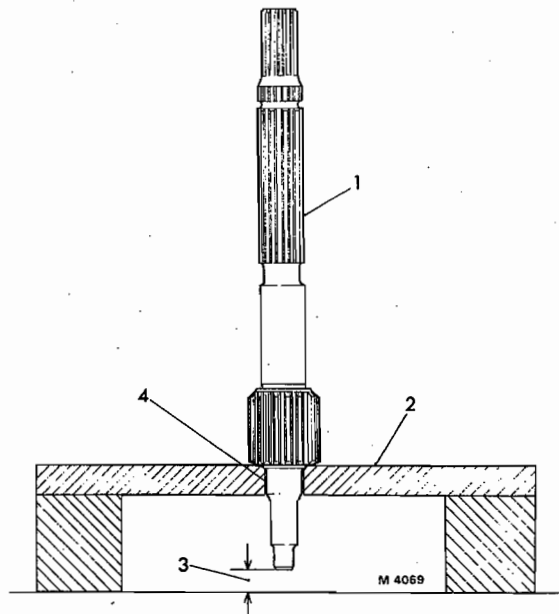

FIG. 17 THE INPUT SHAFT IN A SUITABLE STAND
1. Remove the reverse speed annulus (30) and intermediate bearing (49).
2. Remove the bush (50).
3. Remove the sub-assembly of the reverse speed gear train (34), reverse speed sun wheel (36), bushes (51 and 53), and bush (54).
4. Remove the 1st speed annulus (28) and bush (55).
5. Remove the sub-assembly of the 1st speed gear train (29) and the bush (57).
6. Remove the sub-assembly of the 2nd speed gear train (25) which comprises the output shaft (44) and the 2nd speed planets.
7. Remove the adjusting washer (59).
8. Reverse the input shaft assembly on to a suitable stand having a hole drilled through which the spigot can pass, Fig. 17. The stand should be high enough to allow clearance between the shaft and the floor.
9. Remove the ring nut (100).
10. Remove the clutch housing (1) complete with top speed piston assembly, collar (4), bearing housing (81) and bearing (80).
11. Slide off the spacer (6).
12. Release the spring clip (79) and remove the sub-assembly of the clutch sliding panel (11) and the trunnion ring (10).
13. Examine the pivot pin face (8) for wear. Any wear will allow the trunnion ring to move away from the multi-plate clutches and cause the top speed piston to travel further before a successful gear change is made. A point will be reached therefore, when the top speed clutch will cease to operate.
15. Remove the inner and outer clutch plates (14), (16) the clutch inner member and split-ring.
16. Remove the sub-assembly of the 4th speed sun wheel (22), the 4th speed brake drum (17) and the bush (61).
17. Remove the sub-assembly of the 4th speed gear train (21) 3rd speed annulus (20) and 4th speed planets, together with the bushes (18).
18. Remove sub-assembly of 3rd speed gear train (23) which comprises the 4th speed annulus (19) 3rd speed planets and 2nd speed annulus (24).
1. Place the input shaft (95) in a suitable stand, Fig. 17 and fit the bush (18).
2. Fit sub-assembly of 3rd speed gear train which comprises the 4th speed annulus (19), 3rd speed planets and 2nd speed annulus (24). Fit bush (61).
3. Fit the sub-assembly of the 4th speed gear train (21) which comprises the 3rd speed annulus and the 4th speed planets. Fit the bush (61).
4. Fit the sub-assembly of the 4th speed sun wheel (22) and the 4th speed brake drum (17). Fit the bushes (61) and (18).
5. Fit the split ring, the sub-assembly of the clutch inner member and position the inner and outer clutch plates (14) and (16) alternately. It is advisable to smear the faces of the clutch plates with oil to prevent initial sticking.
6. Fit the clutch springs (62) and insert a pin (63) into each spring.